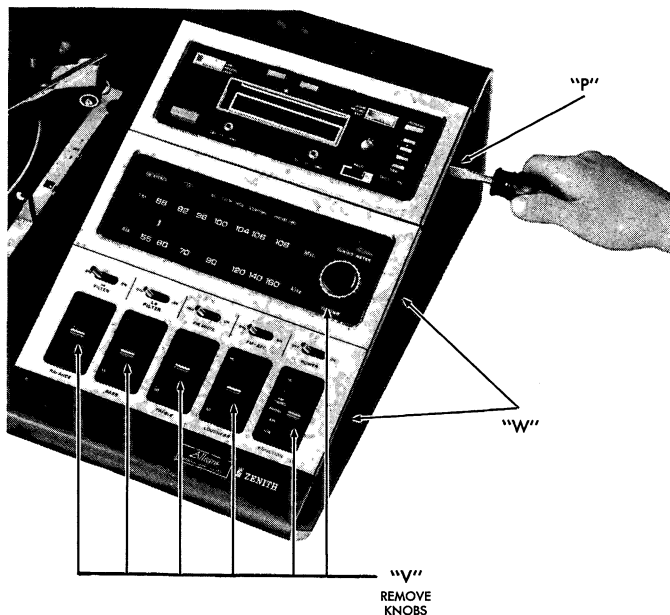

FIGURE 34 — MODELS J596W AND JR596W
5. The tape unit mounting screws are covered by a "snap off" escutcheon. A notch will be found at the center of the outer edge of the escutcheon ("P" in Figure 34). Insert a thin blade screwdriver into this notch between the escutcheon and the cabinet proper, being careful not to mar the surface. Force the escutcheon upward, causing it to disengage the first stud. Grasp the escutcheon along the top, lifting to disengage second stud. Remove escutcheon.
2. Remove four (4) screws holding FM Antenna and Tape Bracket "M".
5. Remove six (6) knobs ("V" in Figure 34).
6. The tuner chassis mounting screws are covered by a "snap-off" escutcheon. Two notches will be found on the bottom of the outer edge of the escutcheon ("W" in Figure 34). Insert a thin blade screwdriver into these notches between the escutcheon and the cabinet proper, being careful not to mar any surface. Force the escutcheon upward, causing it to disengage first two studs. Grasp the escutcheon along the top, lifting to disengage second two studs.